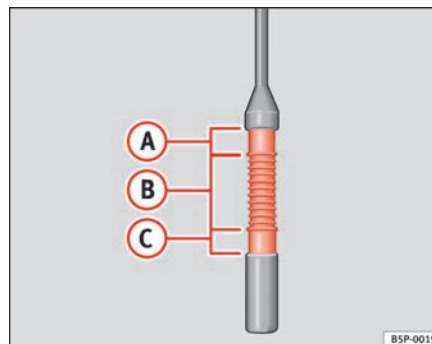

Fig. 165 Engine oil dipstick.
- Then pull it out once more and check the oil level ⇒ **fig. 165**. Top up with engine oil if necessary.